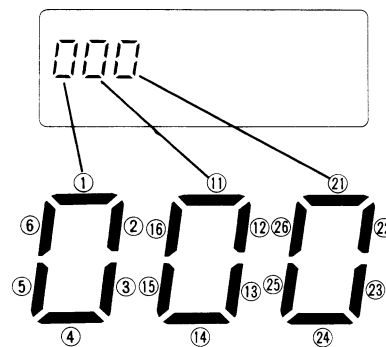

Fig. 2
3. When the tact switches except POWER switch are pressed in sequence the corresponding indicators will appear on the LCD as shown in Table 1 and Fig. 2.
4. When the display in Fig. 2 appears, all the LCD indicators will go on. (Refer to Fig. 3.)